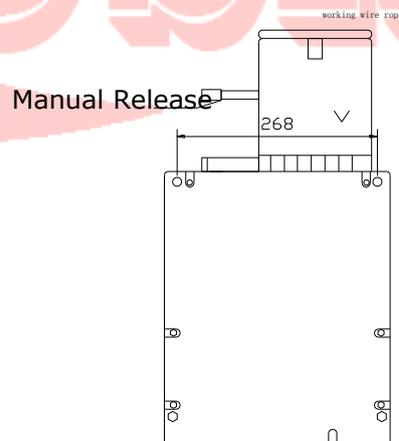

Figure 20 Emergency Descent
- Take the control lever (1) from the carrying handle, insert it through the brake release point and raise it. **(See Figure 20)**